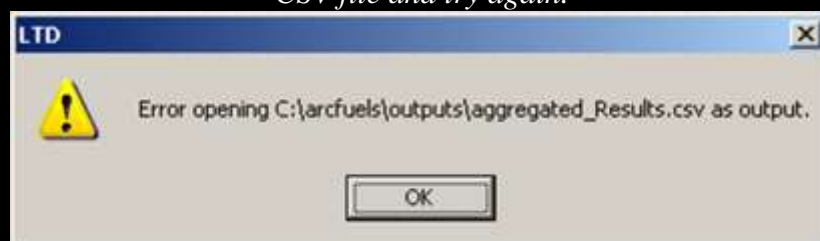

Figure 5-22—LTD error window if you have your Results CSV file open.
*If you forgot to re-name your output files, and still have the Results CSV File open, you will get the following error window (fig. 5-22). Click **OK** and the LTD run will terminate. Close the CSV file and try again.*